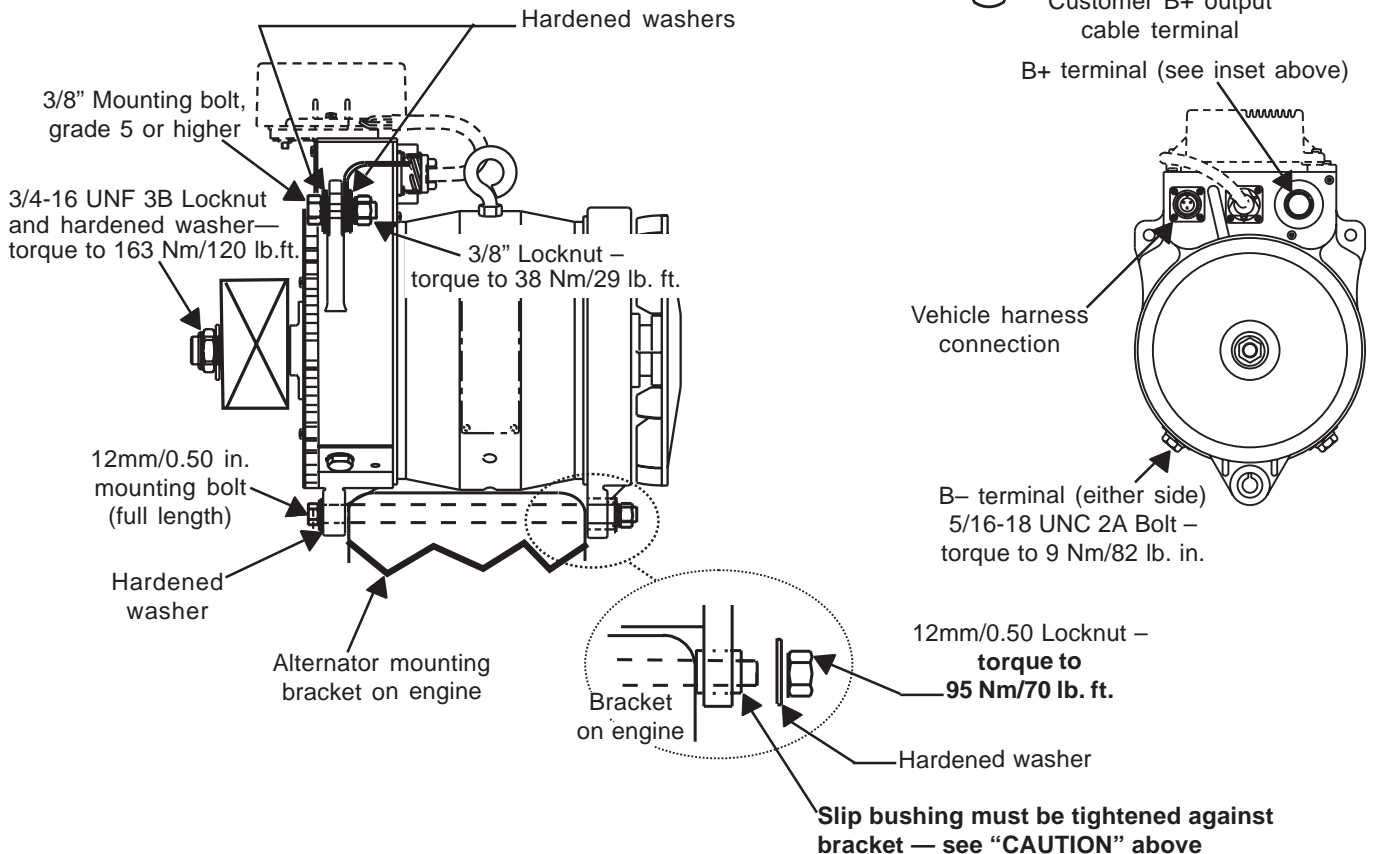

Figure 1 - N1307/N1307-1 Alternator Installation Details
Install alternator as shown in Figure 1:
2. Use hardened washers between aluminum surfaces and bolt heads and nuts. Torque mounting bolts as shown in Figure 1.